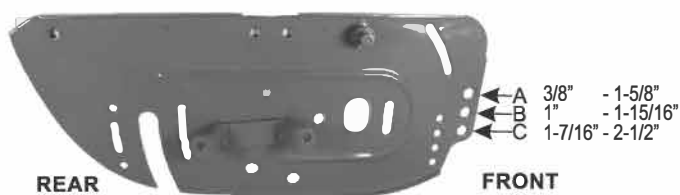
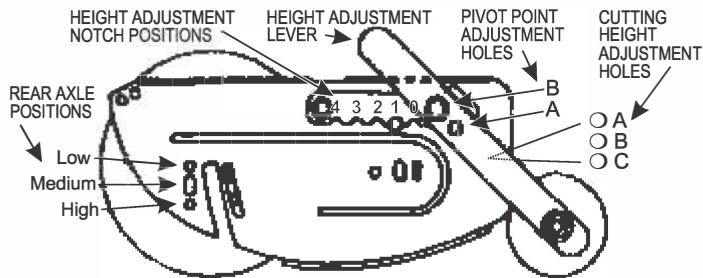

FIGURE 9: Use the front roller assembly cutting height adjustment holes and height adjustment lever to set the cutting height of the mower.
FIGURE 10: Rear axle positions; height adjustment lever positions
Three holes in the mower side panels (see Figure 9) allow the position of the front wheel assembly bar to be changed to obtain the desired cutting height range.
Once the desired cutting range is set, the height adjustment lever (see Figure 10) is placed in one of five preset positions (notch 0 through notch 4) to select the desired cutting height. (see Tables 1.1 - 1.3) **** FOR MODEL LC USE TABLE 2****
NOTE: When changing the position of the front roller assembly, the height adjustment lever must be changed to the position "A", "B" or "C", as appropriate (see Figure 9). The "pivot point" location of the height adjustment lever must also be be changed. When using cutting height adjustment hole "A" in the side panel (see Figure 9), the "pivot point" location for the height adjustment lever must also be changed to position "A" (see Figure 10). When using cutting height adjustment hole "B" or "C" in the side panel (see Figure 9), the height adjustment lever "pivot point" location must be placed in position "B" (see Figure 10).
The mower is shipped with rear axle in the medium (middle) position (see Figure 9). The cutting heights listed in Table 1.1 are achieved with the axle in this position. The rear axle must be lowered or raised (see Figure 10) to obtain the 3/8" and 2-1/2" cutting heights (see Table 1.2 and 1.3).
4. Remove eight retainer bolts (12). Loosen eight hanger bolts (13).
5. Move the rear axle outward until the retainer bolt hole aligns with the high hole in the sideplate (see Figure 10).
6. Replace and tighten eight retainer bolts (12). Tighten eight hanger bolts (13).
7. Replace sideplate chain (21) and clutch drive chain (15).